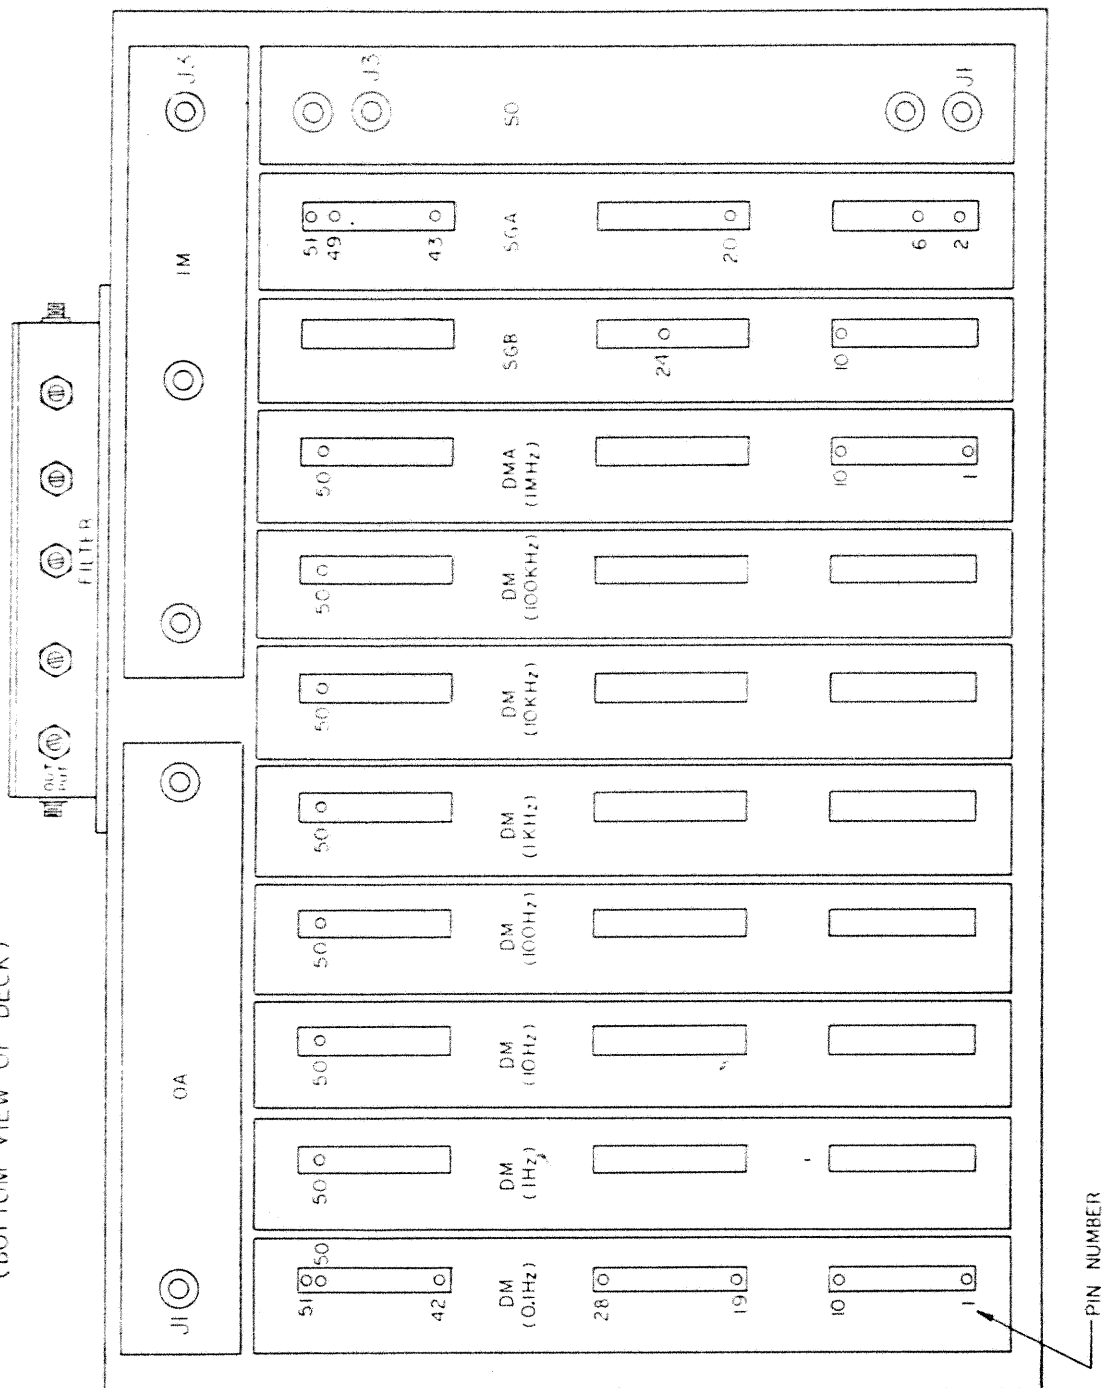

Figure 5
1. Test point designations show the module type and the pin number (position) of the board-edge connector, as used on the module schematic and Figure 5.